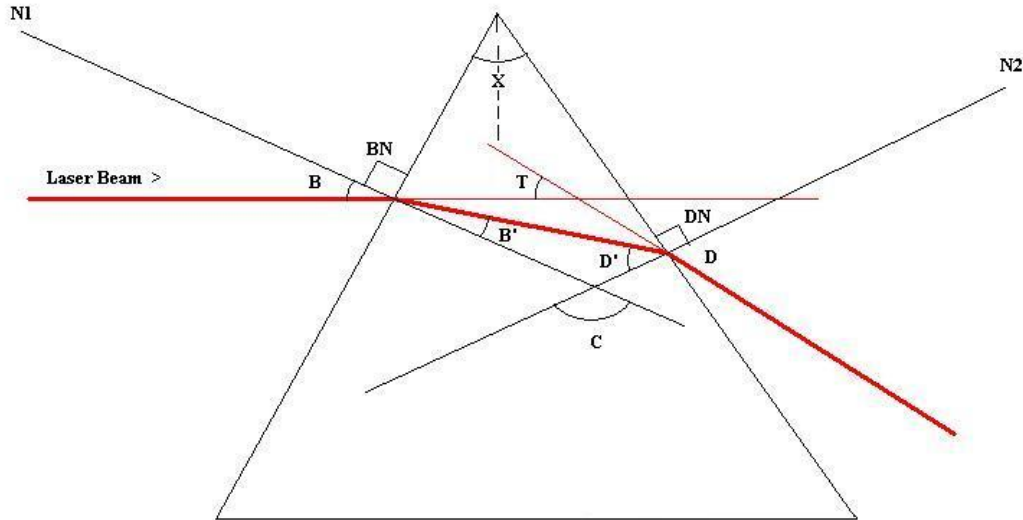

Fig 8
- 2) The prisms are oriented exactly “upright”, with the centerline perpendicular to the laser beam, as shown in Fig 8.